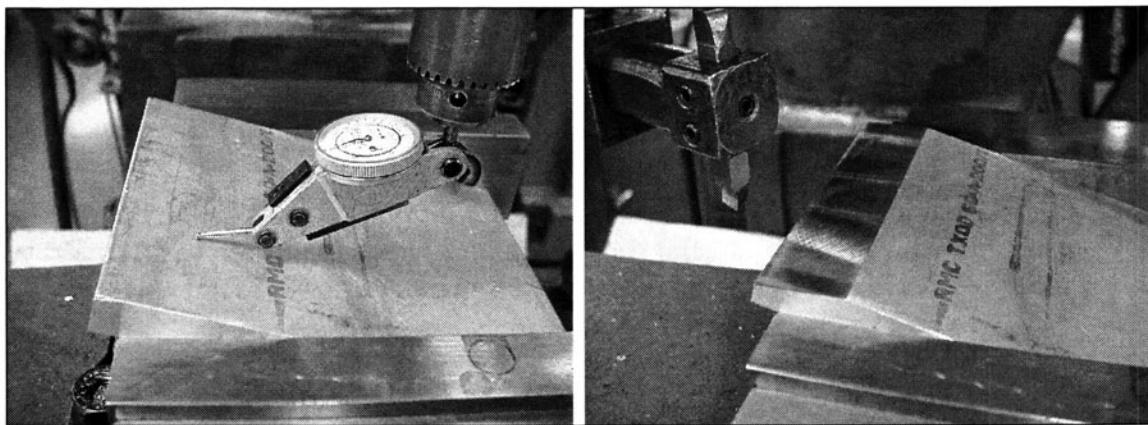

FIGURE 2-6 An indicator is used to level the plate in the "Y" direction before cutting the ramp.
35. Use an indicator to line up a thin plate before cutting a ramp. (See Fig. 2-6)